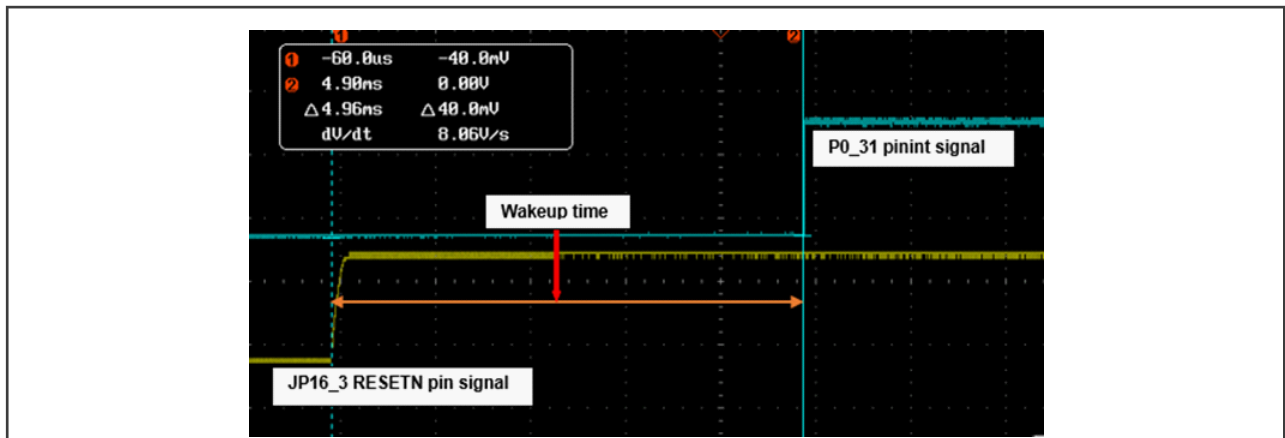
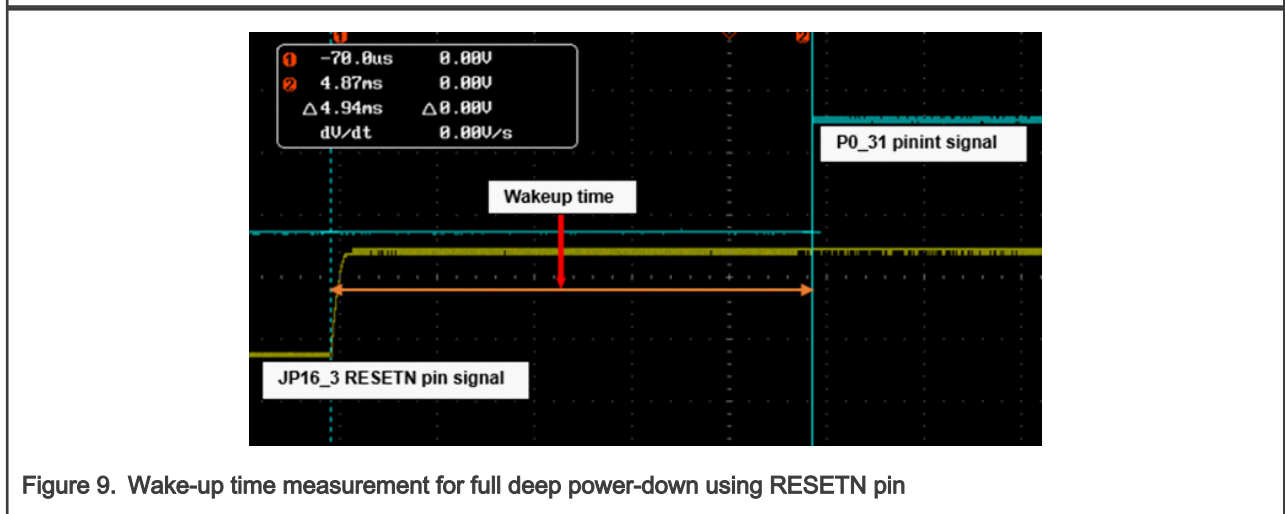

Figure 8. Wake-up time measurement for deep power-down using RESETN pin
Figure 9. Wake-up time measurement for full deep power-down using RESETN pin
- For wake-up time from deep power-down and full deep power-down modes, measure time passed on the oscilloscope between the RESETN pin going high to P0_31 pin going high as shown in Figure 8 and Figure 9.